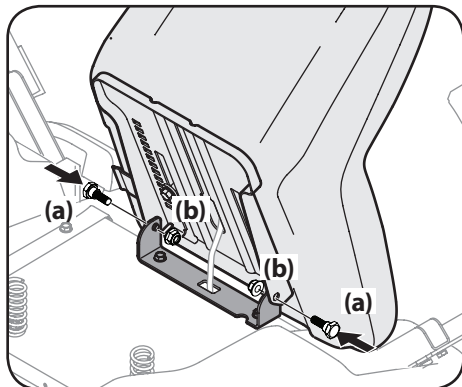

Figure 2-5
3. Rotate the seat into position and secure the seat into place with the previously removed shoulder screws (a) and flange lock nuts (b). Be careful not to crimp or damage the wire harness while installing the seat. See Figure 2-5.